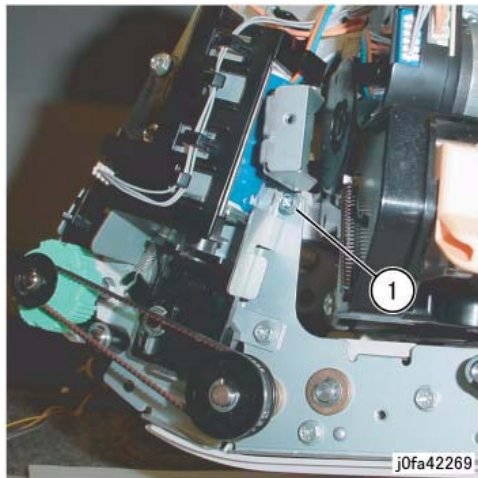

Figure 5 Removing the Self-tapping Screw
12. Remove the front Self-tapping Screw (Figure 5):